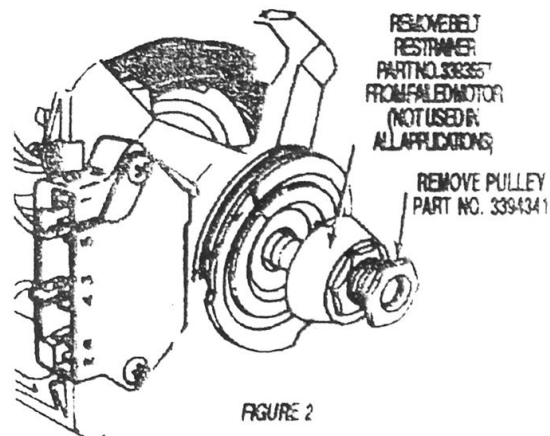

FIGURE 2
4. Remove pulley from replacement motor by using two (2) open end or adjustable wrenches. Place one on the motor shaft, right behind the pulley, and the other on the pulley. Holding the motor shaft in place with one (1) wrench, turn pulley with other wrench in a counterclockwise direction to remove pulley. See Figure 2.
5. Remove belt restrainer from failed motor, if used. See Figure 2.